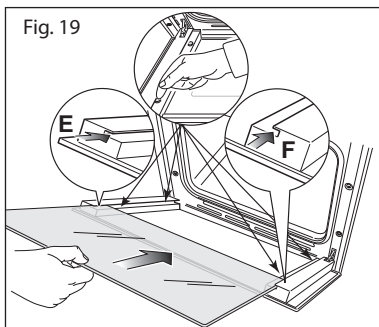
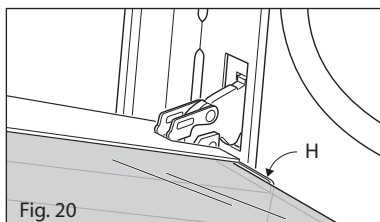

Fig. 19
Fig. 20
– Insert the pane in the left **E** and right **F** slide guides (fig. 19), and gently slide it to the retainers **H** (fig. 20).